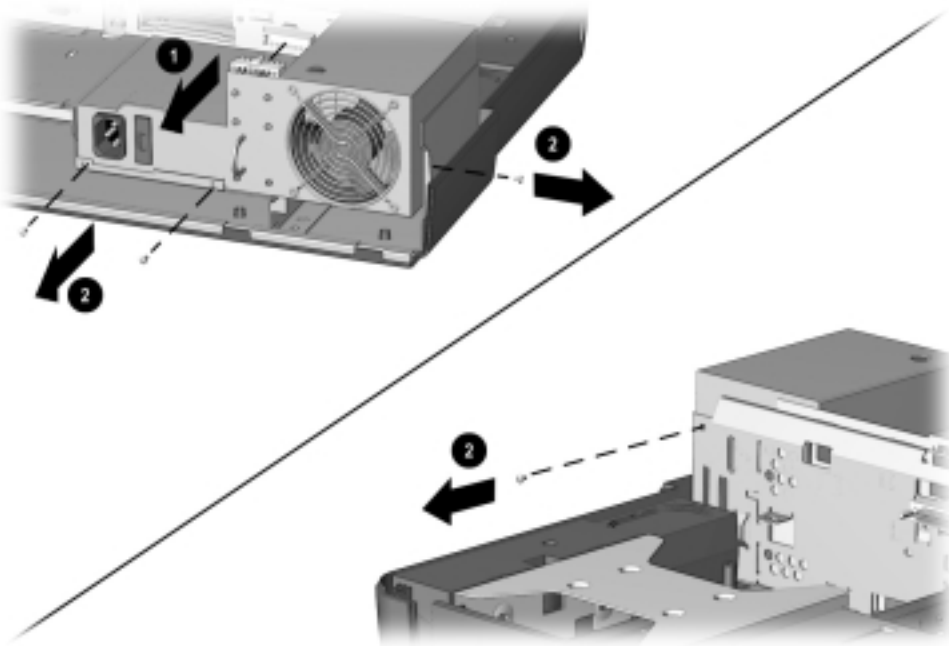

Figure 5-29. Disconnecting the Power Supply Cable and Removing the Power Supply Screws
6. Remove the four screws **2** that secure the power supply to the base cover (Figure 5-29).